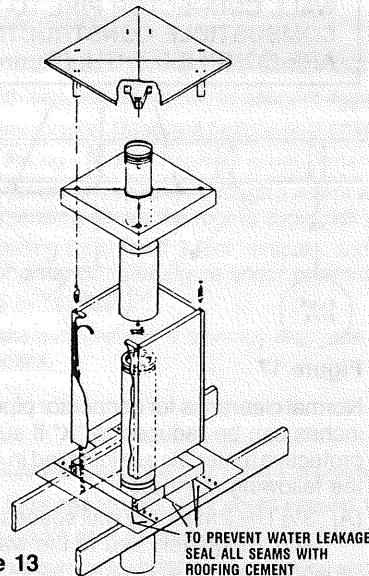

Figure 13
- 2) HOUSING WITH WEATHER CAP. The chimney housing (Cat. No. TDH5) may be installed with a weather cap (Cat. No. TDW) for sizes 6, 7 and 8 inch. The weather cap is mounted on the dome over the flue opening to prevent the entry of rain, snow or debris. (Fig. 13)
- The two telescoping halves of the roof flashing are slipped together with the upper section overlapping on top of the lower section (Figure 13). Place over the framed opening and extend flashing to center it on the pipe and the framed opening. **DO NOT NAIL AT THIS TIME.**
- (J) Lift this assembly over the housing assembly and insert the inner pipe of the telescoping length into the top chimney pipe. (The telescoping section should extend at least 2 inches into the chimney section.) Push downward until the corner bolts enter the holes in corners of the dome.
- (K) The weather cap (Cat. No. TDW) (Figure 13) is then installed by slipping the holes in the corner posts over the four upward extending bolts. It is then locked in place with the four washers and wing nuts provided.